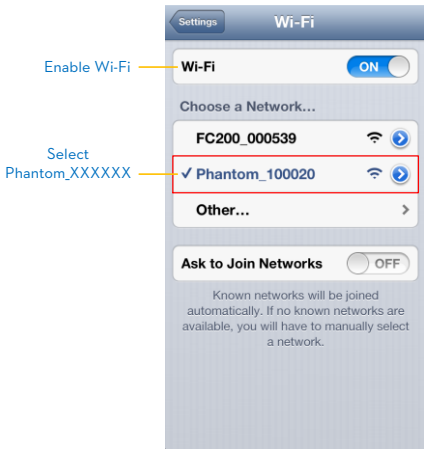

Figure 46
3. (Figure46) Enable the Wi-Fi on your mobile device; wait for about 30 seconds, and then select “Phantom_XXXXXX” from the Wi-Fi network list.